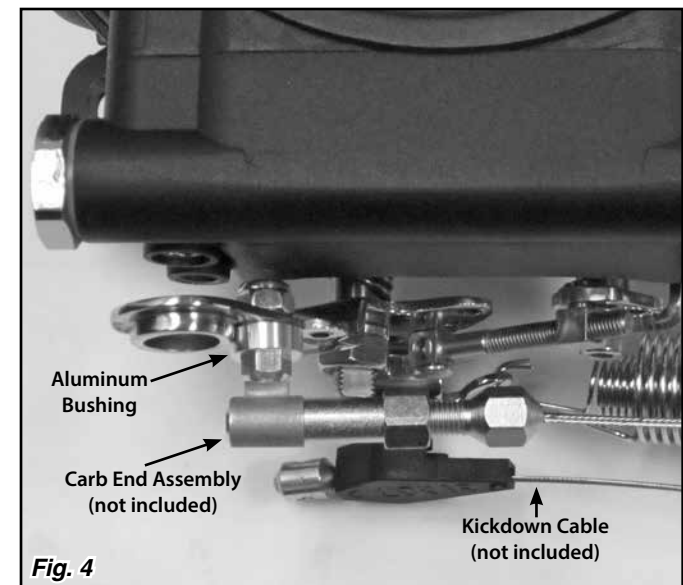

Fig. 4
Step 5: When the Throttle Cable (not included) is installed, place the aluminum bushing from this kit onto the stud on the carb end assembly (not included, comes with the Throttle Cable) before connecting the carb end assembly to the throttle lever. The aluminum bushing acts as a spacer, and is required for proper Throttle Cable alignment. **Fig. 4**